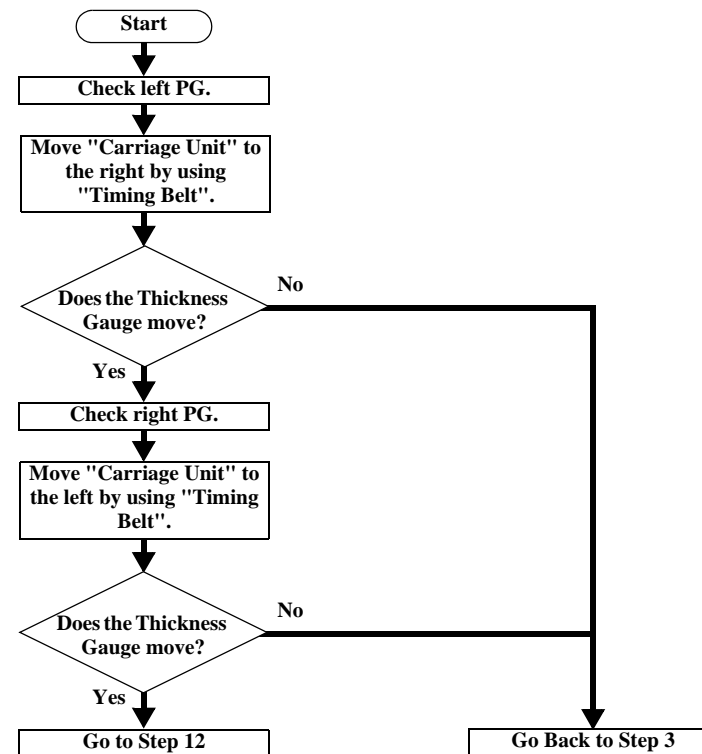

Figure 3-12. PG Checking (2)
- Check PGs on both the left and right according to the flowchart in the Figure 3-12.
- After screwing, check PGs on both the left and right again according to the flowchart in the Figure 3-12.